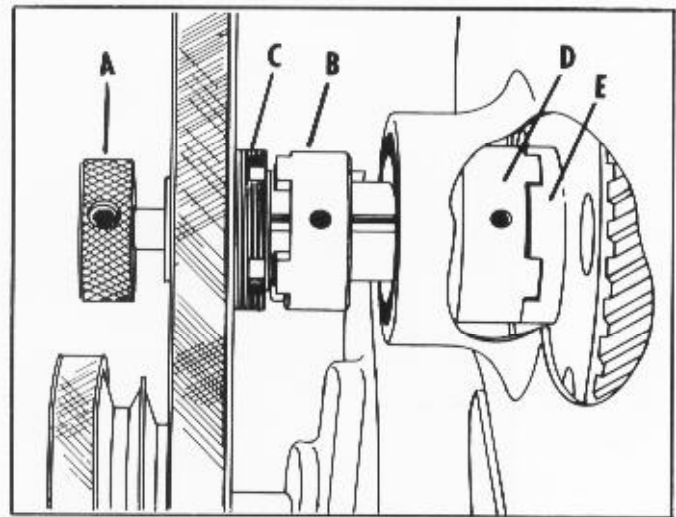

Fig. 23
When using your machine for metal cutting (40, 60, 85, 115, 160, 220 and 335 FPM), the shifter knob (A) Fig. 23 is always pushed in all the way, disengaging the clutch (B) from the hub (C) of the pulley. An additional clutch (D) is located inside the band saw and must be engaged with the hub (E) of the gear that transmits power through the gear box, as shown in Fig. 23. When pushing in on the shifter knob (A) Fig. 23 rotate the lower wheel of the band saw, and you will be able to feel when engagement occurs.